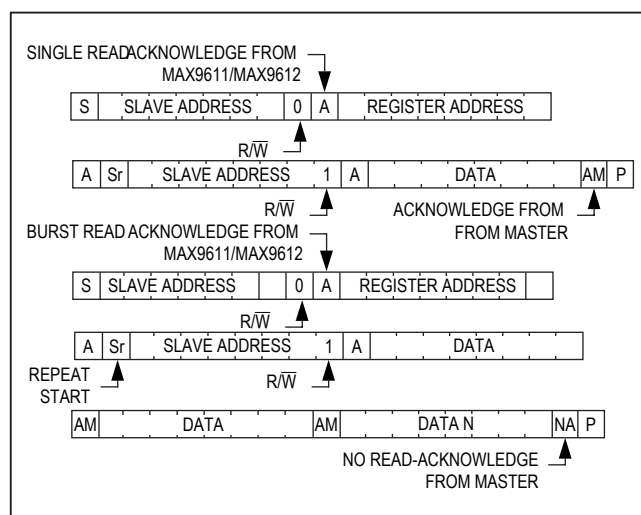

Figure 2. I²C Read Operation
In an I²C read operation (Figure 2), the bus master issues a write command first by initiating a START condition followed by seven address bits, a write bit (R/W = 0) and the 8-bit register address. The master then issues a Repeated START (Sr) condition, followed by seven address bits, a read bit (R/W = 1). If the address byte is successfully received, the MAX9611/MAX9612 (slave) issue an acknowledge (A). The master then reads from the slave. For continuous read, the master issues an acknowledge bit (AM) after each received byte. The master terminates the read operation by sending a not acknowledge (NA) bit. The MAX9611/MAX9612 then release the data line SDA allowing the master to generate a STOP condition.